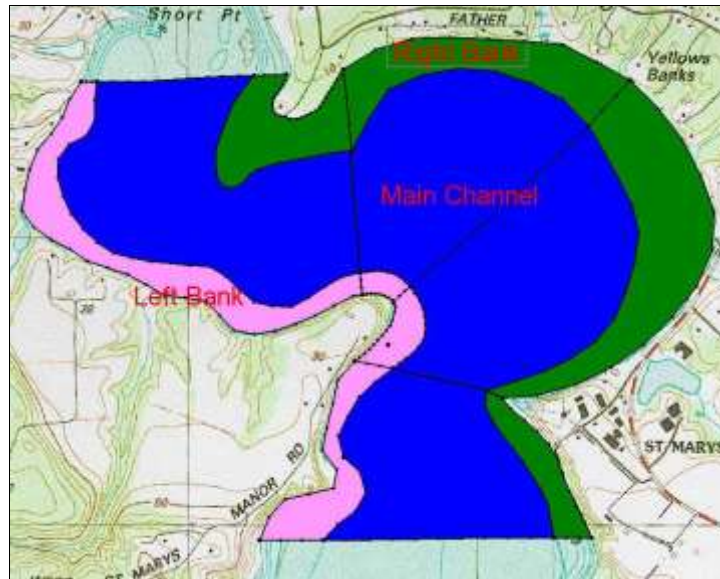

Figure 16 Polygons with defined material types
2. Hold down the *Shift* key and select all the polygons labeled "Left Bank" in Figure 16 below.